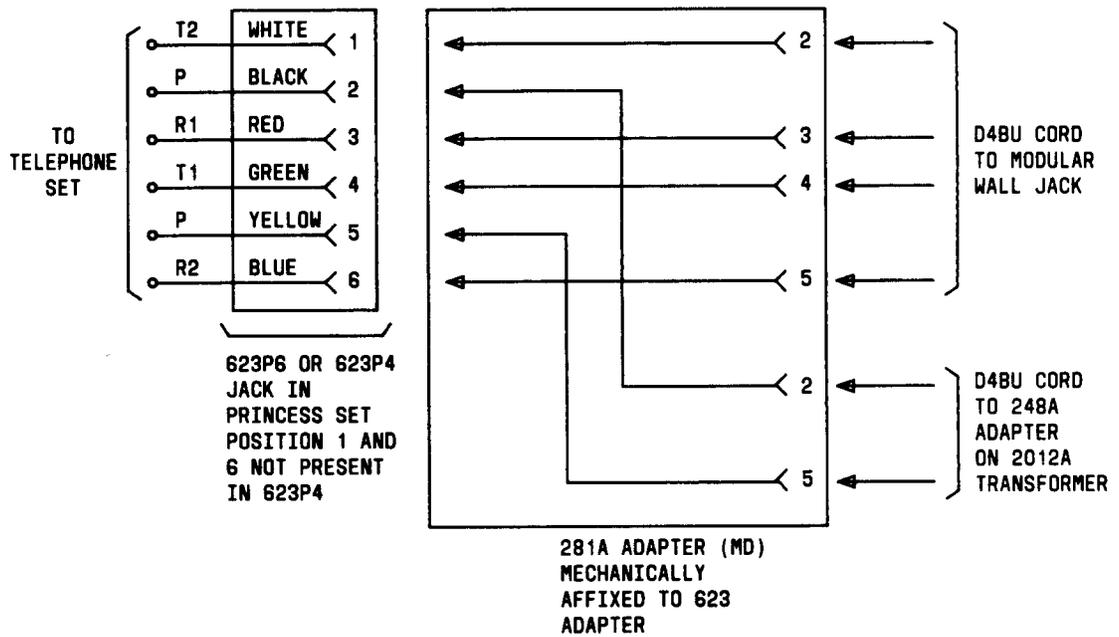

Fig. 40—Schematic Diagram, 281A (MD) Adapter
◆Fig. 40—Schematic Diagram, 281A (MD) Adapter◆